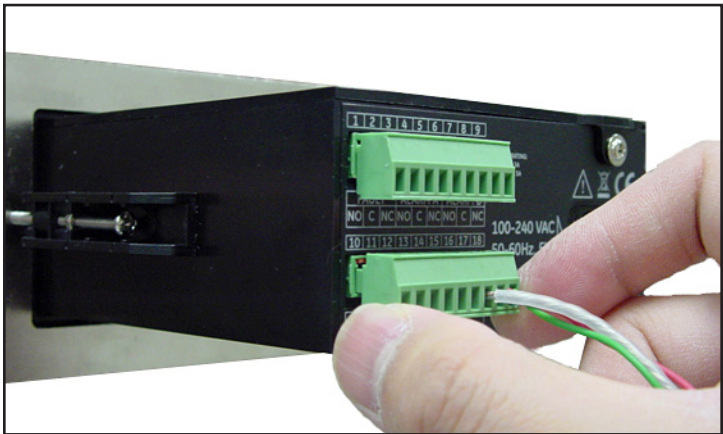

Figure 25: Reinserting the Connector into the Terminal Block
- 4. Reinsert the connector into the lower terminal block on the rear of the dew.IQ (see Figure 25 below).